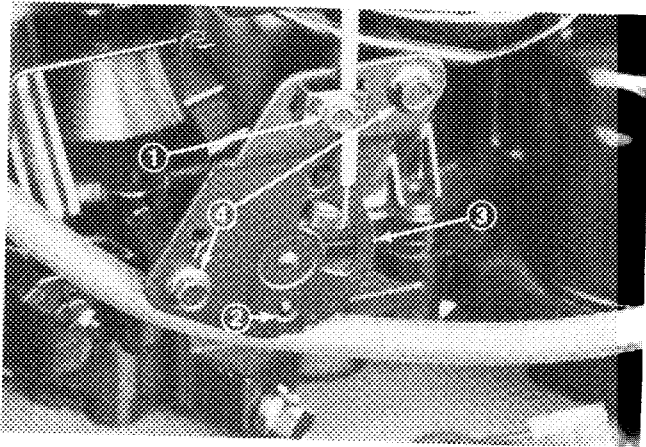

Figure 20
(Fig. 20)
2. Loosen the throttle cable clamp screw (Fig. 20) and move the control cable casing and wire until the hole in speed control is aligned with hole in control plate. Tighten cable clamp.